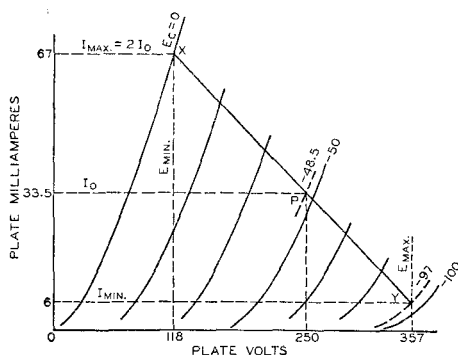

Fig. 20
Power output for triodes as single-tube class A amplifiers can be calculated without serious error from the plate family of curves by assuming a resistance load. The proper plate current, grid bias, and optimum load resistance, as well as the per cent second-harmonic distortion, can also be determined. The calculations are made graphically and are illustrated by Fig. 20 for given conditions. The procedure is as follows: Draw a straight line XY through the points P and X on the plate family of curves. P is known as the zero-signal bias point and may readily be located by determining the zero-signal bias,  $E_c$ , from the following formula:
**Example:** Determine the load resistance and undistorted power output of a triode operated at 250 volts on the plate, given its amplification factor of 3.5 and its plate characteristics curves as shown in Fig. 20.
**Procedure:** Draw the load line XY through the operating point (P) and the zero d-c grid bias point (X)